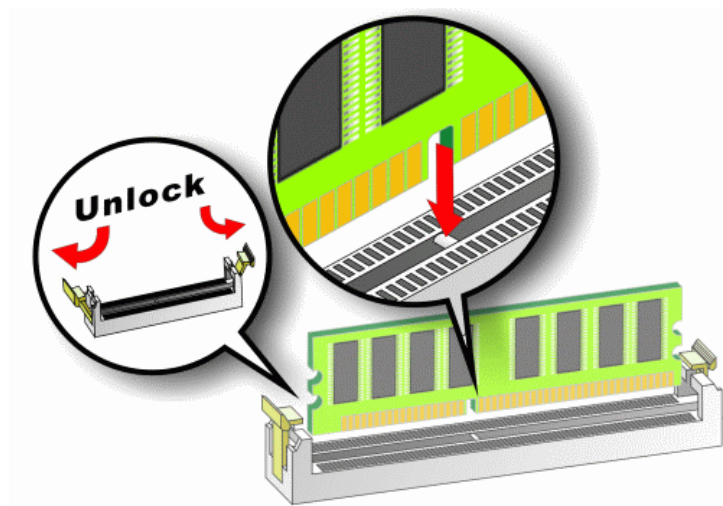

Figure 5-7: Installing a DIMM
To install a DIMM into a DIMM socket, please follow the steps below and refer to **Figure 5-7**.
- Step 1: Open the DIMM socket handles.** The DIMM socket has two handles that secure the DIMM into the socket. Before the DIMM can be inserted into the socket, the handles must be opened. See **Figure 5-7**.
- Step 2: Align the DIMM with the socket.** The DIMM must be oriented in such a way that the notch in the middle of the DIMM must be aligned with the plastic bridge in the socket. See **Figure 5-7**.
close automatically and secure the DIMM to the socket. See **Figure 5-7**.